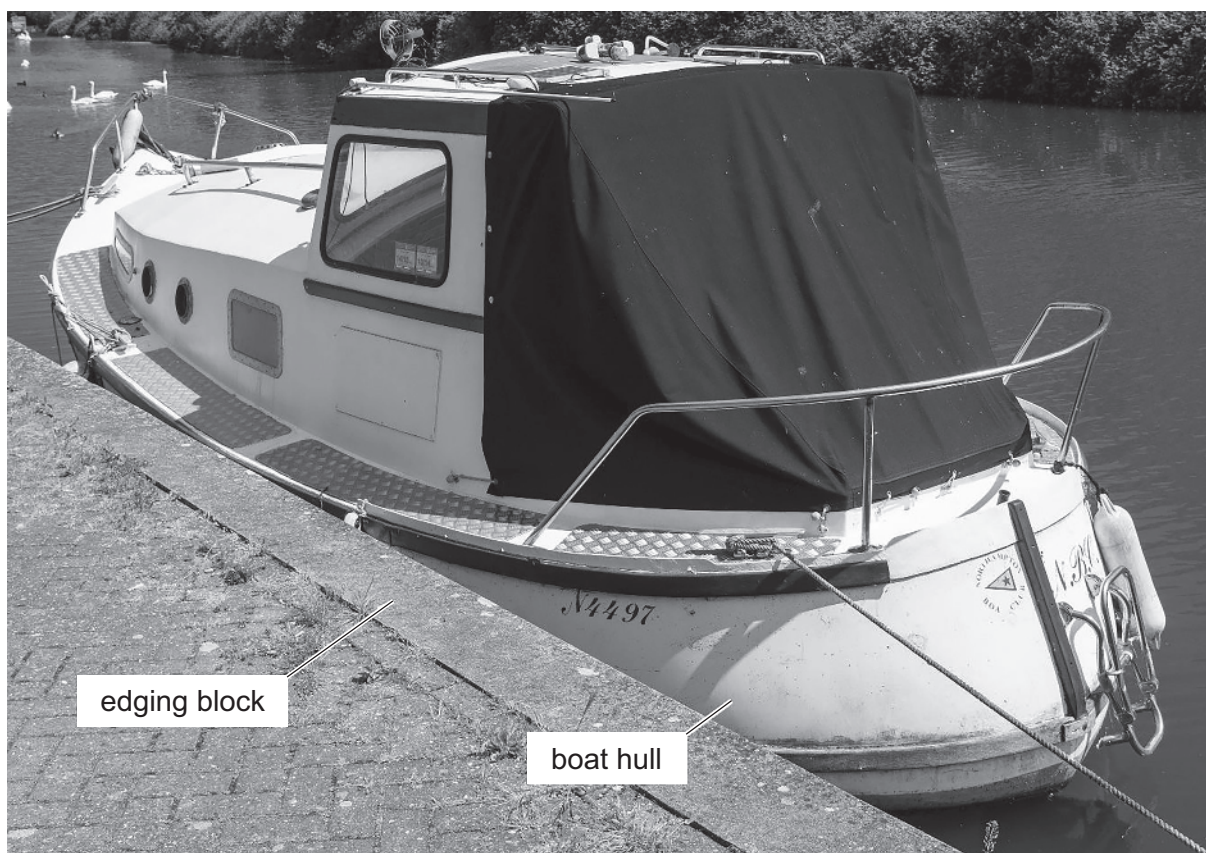

Fig. 1.1
- 1 Fig. 1.1 shows two structures made from composite materials.